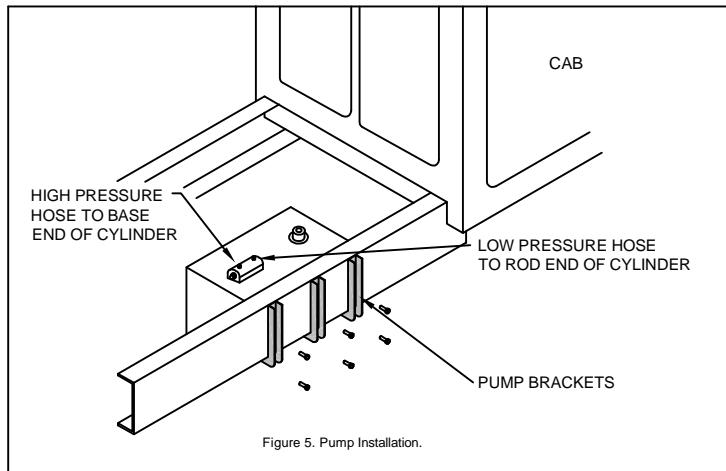

Figure 5. Pump Installation.
1. 7' (or 7'-10") hose(s) installation - Connect one end of the hose to the front pump port (low pressure). Connect the other end of the hose to the rod end of the hoist cylinder (Figure 5).
2. 5' hose(s) installation - Connect one end of the hose to the rear pump port (high pressure). Connect the other end of the hose to the base end of the hoist cylinder (Figure 5).